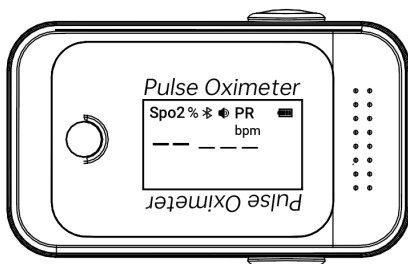

Figure 9
- When the received signal is inadequacy, " - - - - " will be displayed on the screen. (as shown in **Figure 9**)